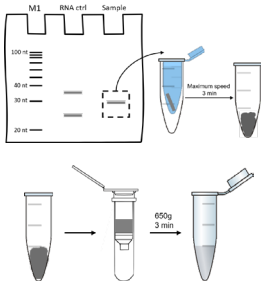

Fig. 1
- Size select the ribosome protected fragments (RPF) between 25-nt and 35-nt according to the the marker M1 and/or RNA control (see Fig. 1). Also, excise the "RNA control" oligo bands. You can use the "RNA control" as a reference sample for all next steps of the library prep.